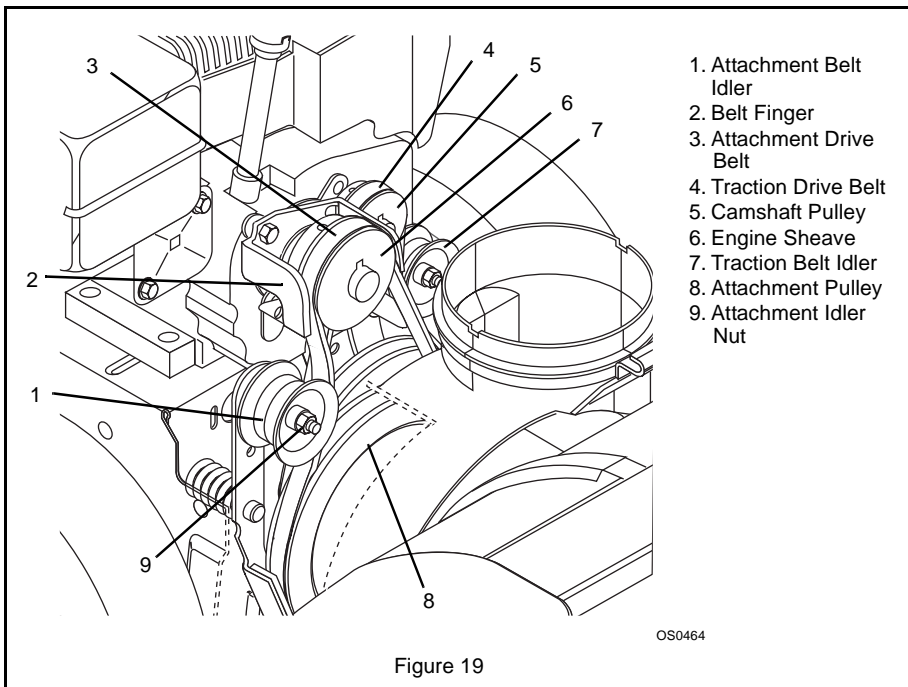

Figure 19
5. Remove belt finger by removing cap screw mounting belt finger to engine (Figure 19).
**IMPORTANT:** BELT FINGER MUST BE between 1/16 to 1/8 in. (1.6–3 mm) from belt with attachment clutch engaged or belt grabbing may occur causing impeller to rotate while attachment clutch is disengaged (Figure 19).
2. Check belt alignment (Figure 19).
- a. Loosen idler nut (Figure 19).